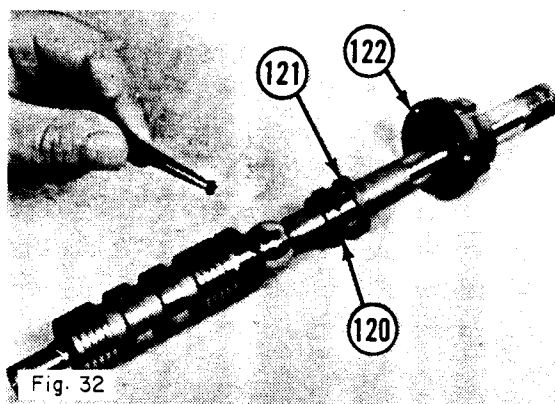

Fig. 32
After the lock nut (122) is removed, this will expose the lower pivot bearing (121) and the spacer (120) (Fig. 32). Examine the bearing surface of these parts; make certain that there are no burrs or nicks either on the lower pivot bearing, on the spacer, or the lock nut where they mate. Before you assemble, make certain that all parts are clean and free from lint. To tighten the lock nut back on the spool, reverse the action as shown in the illustration.